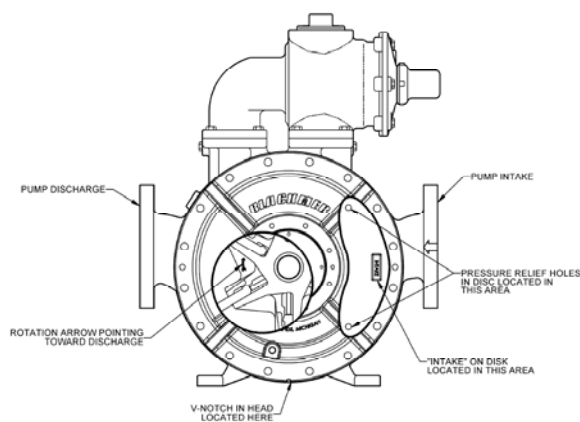

Figure 6
1. **LINER** – The liner (41) has a close fit with the casing (12); take care to avoid finger injury during installation.
- a. Align and start the liner (41) and liner key (74) together into the pump casing (12). The word "INTAKE," which is cast into the liner, must be towards the intake side of the pump. **NOTE:** The intake port is marked with an inward facing arrow.
- a. Place a disc (71) on the head (20 or 20A) with the counterbored screw holes facing up.
- b. Position the disc so that **when the head is mounted** with the drain hole and V-notch down, the word "INTAKE" on the disc will be towards the intake side of the pump. The two disc holes must be in the 2 and 4 o'clock positions if the inlet is on the right (see Figure 6).
NOTE: When installing the rotor and shaft, the rotation arrow on the rotor must point in the direction of pump rotation-towards the discharge side of the pump when the arrow is positioned directly below the shaft. See Figure 6.